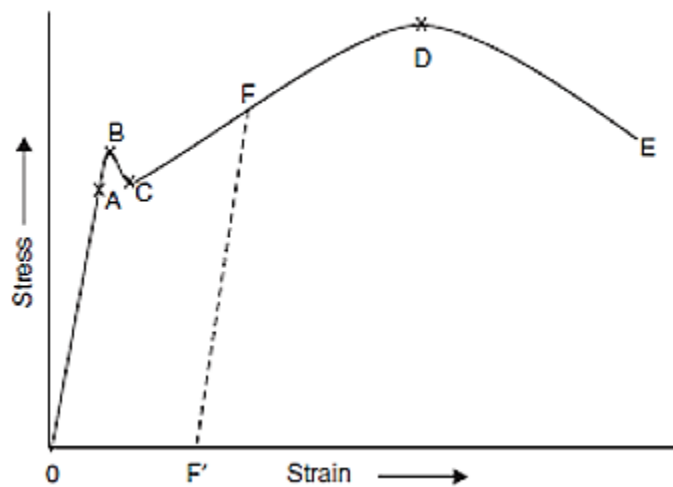

Figure 2
- c. Figure 2. Shows stress vs strain diagram for the typical mild steel specimen. State and explain the following salient points(A,B,C,D,E) which are observed on stress-strain curve: **[10 marks]**